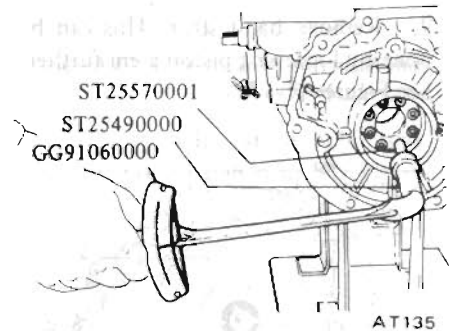

Fig. AT-69 Installing one-way clutch inner race
1. After installing piston of low and reverse brake, assemble thrust spring ring, return spring, thrust washer and one-way clutch inner race. Torque hex-head slotted bolt to 1.3 to 1.8 kg-m (9.4 to 13 ft-lb), using Hex-head Extension ST25570001 (ST25570000), Torque Wrench GG91060000 and Socket Extension ST25490000 (ST25512001). See Figure AT-69.